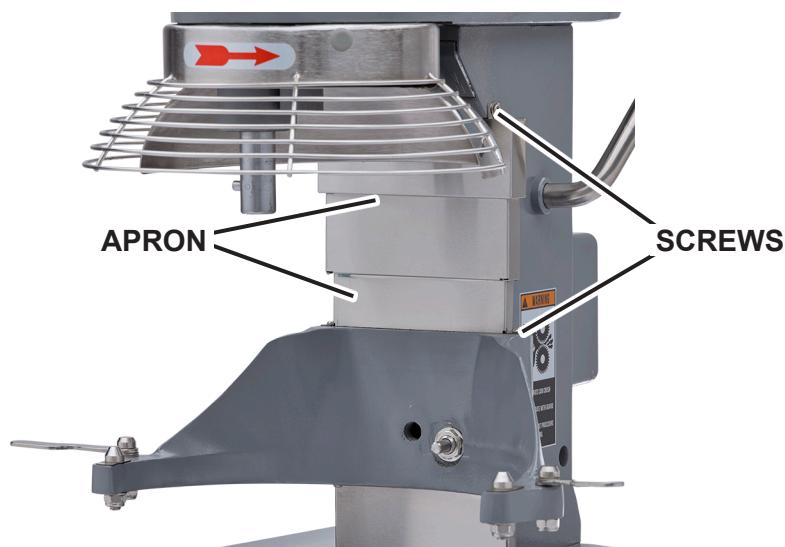

Fig. 11
- Remove the apron (Fig. 11), which is secured by screws.